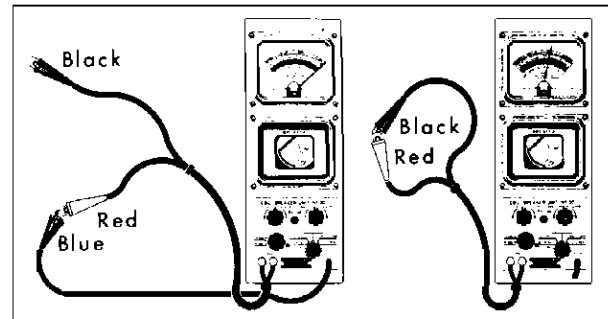

Fig. 11-22 Calibrating Coil Tester
2. Connect blue ground and red primary leads together as shown in Fig. 11-22.